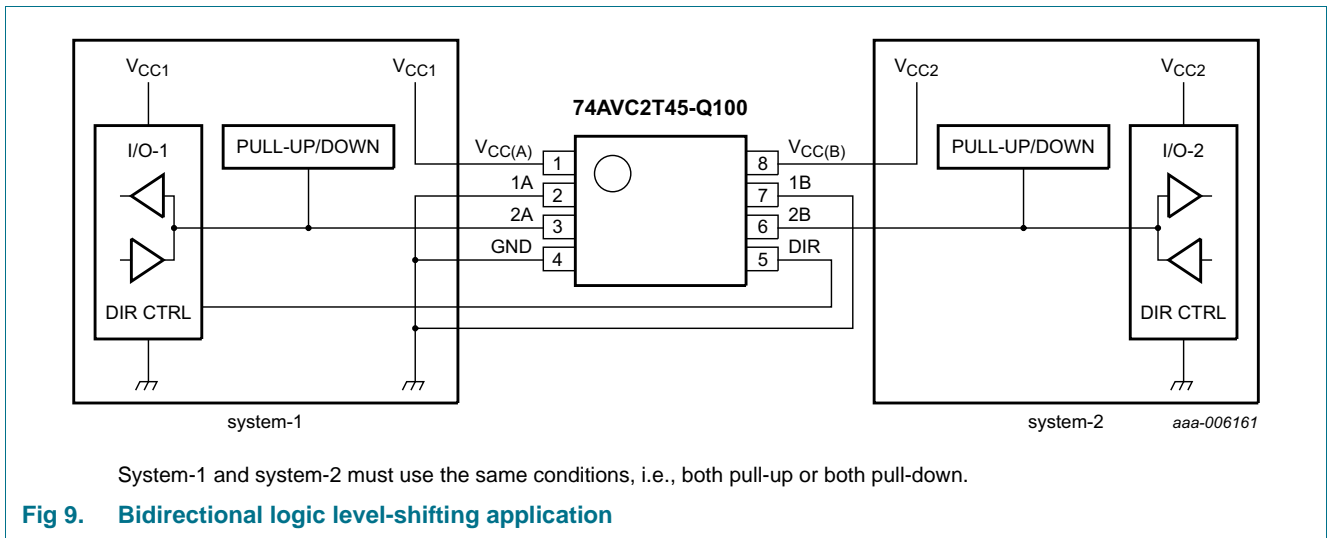

Fig 9. Bidirectional logic level-shifting application
Figure 9 shows the 74AVC2T45-Q100 being used in a bidirectional logic level-shifting application. Since the device does not have an output enable (OE) pin, the system designer must take precautions to avoid bus contention between system-1 and system-2 when changing directions.